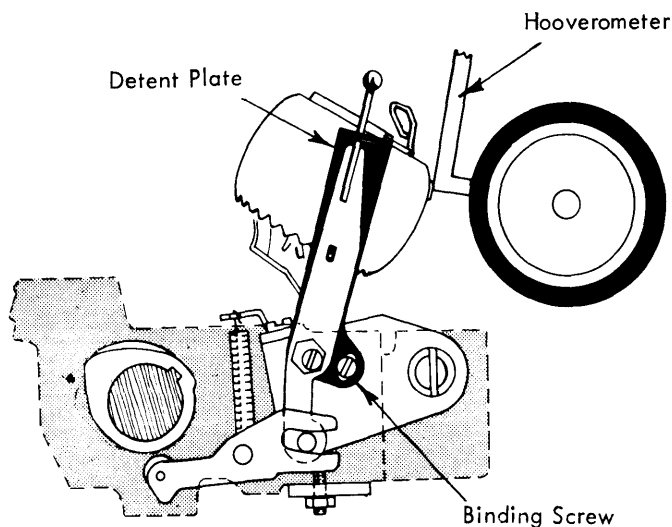

FIGURE 92. Powered Travel
12. Powered Travel - With the cycle shaft latched at rest and the impression control lever set at position 4, loosen the binding screw and move the detent plate forward or back until a clearance of .250" exists between the platen and the center of the letter "Z" (Fig. 92). This clearance can easily be measured with the Hooverometer which is approximately .250". When measuring the adjustment, remove the tilt ring play by depressing lightly on the rear of the tilt ring.